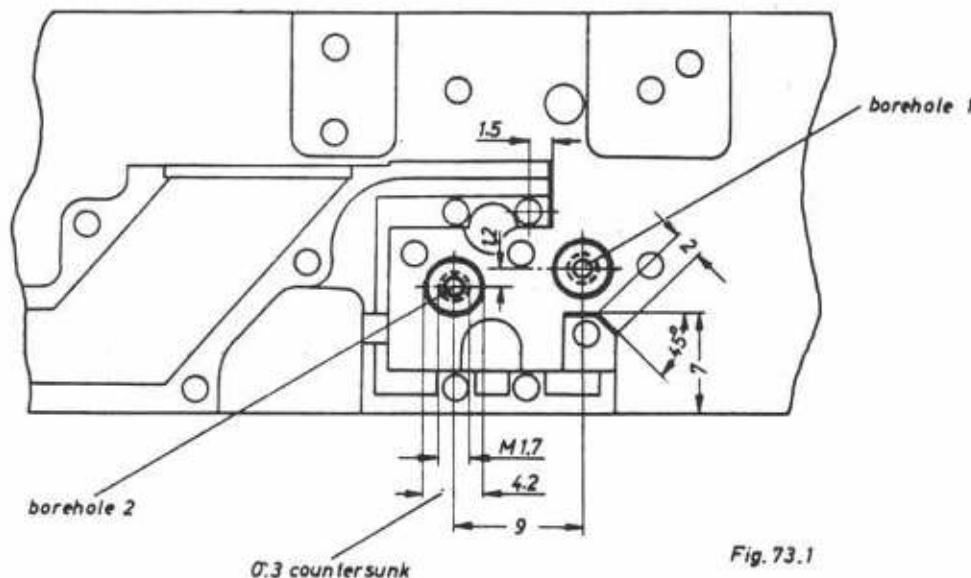
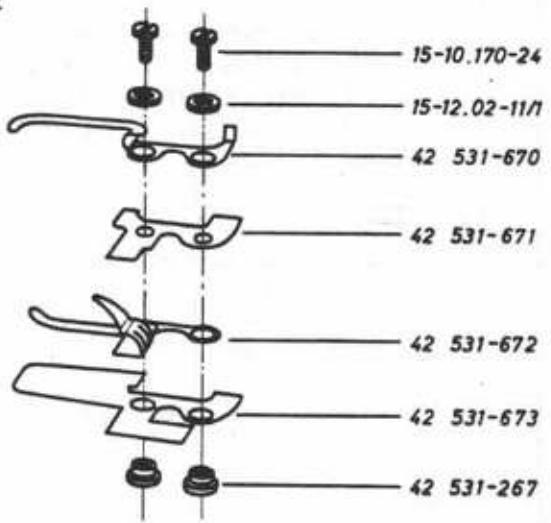

Fig. 73.1
Fig. 74.1
- 3.11 Mount the Leica securely from the cover plate side, seal off all opening giving access to the shutter and using cylindrical cutter 4 Ø DIN 844 W proceed to mill in accordance with Fig. 73.1.
- 3.12 Should the Leica be due for complete dismantling, lay the main body with the film channel facing downwards and clamp the main body firmly from the shutter side with a plate in such a manner, that the camera can be milled, as shown in Fig. 73.1.
- 3.2 Screw and secure the pre-assembled contact sub-group (see Fig. 74.1) in borehole 1 (see Fig. 73.1) with the aid of screw 15-10.170-24 on the main body.
4.1 The pre-assembly of the contact sub-group takes place in the sequence shown in Fig. 74.1, whereby insulating lacquer is applied to the contact surfaces facing the main body, between the individual components.